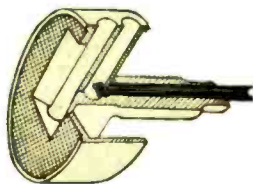

Fig. 5. Copper tube for soldering or brazing, cast in place.
(3) To provide means of soldering or brazing on castings made from alloys which cannot be soldered or brazed such as aluminum and its alloys. Fig. 5 illustrates this application of inserts.